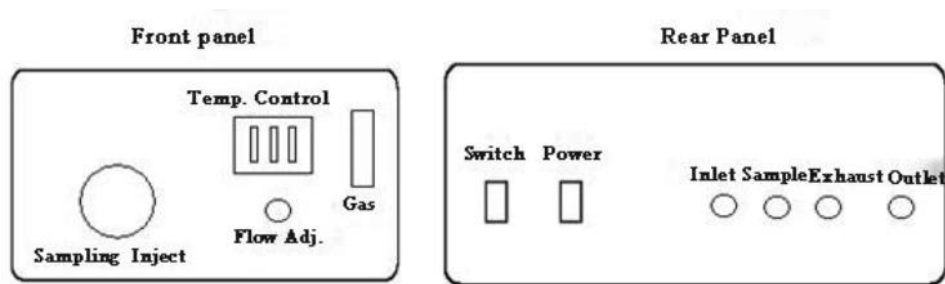

Figure 7
4.4.2 Gas sample injector (Figure 7)